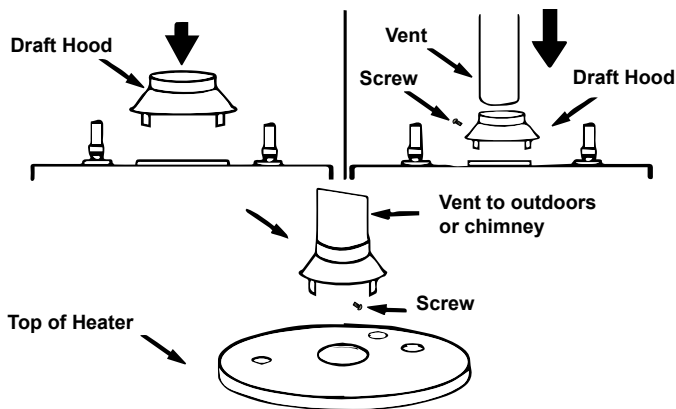

FIGURE 18. DRAFT HOOD ATTACHMENT
- Place the vent pipe over the draft hood. With the vent pipe in position, drill a small hole through both the vent pipe and draft hood. Secure them together with a sheet metal screw. See **Figure 18** (page 20).